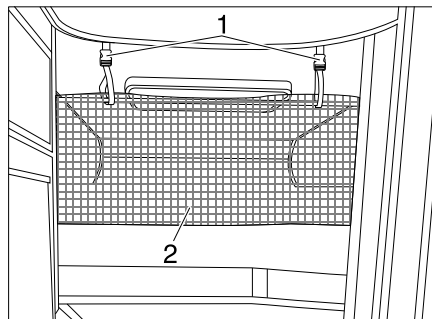

Fig. 163 Safety net
- Fasten the retaining straps (Fig. 163,1) to the holders on the ceiling (Fig. 163,2).